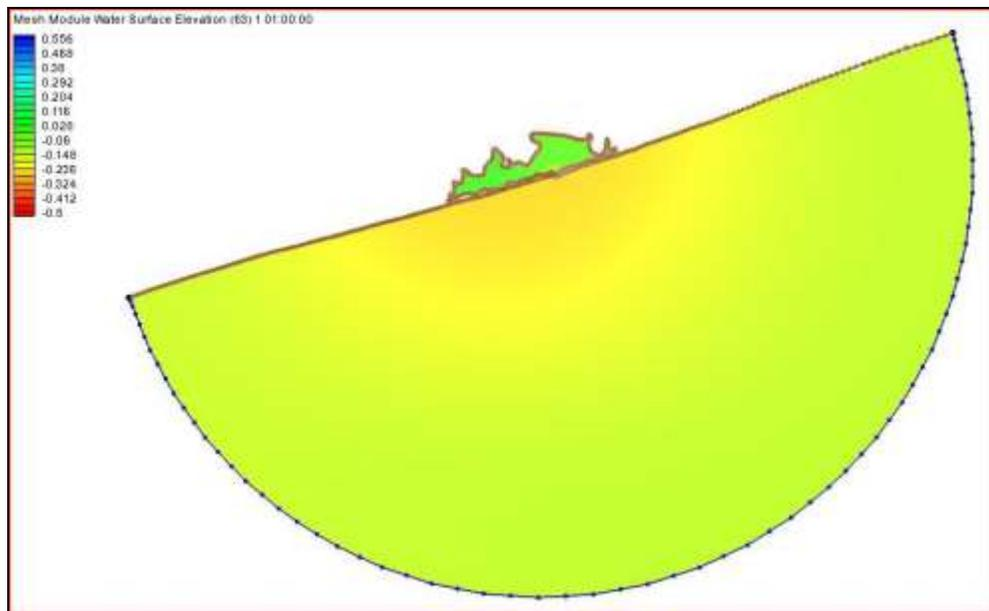

Figure 6 ADCIRC output from the “fort.63” file
6. Click **OK** to exit the dialog box, and SMS will redraw the screen similar to Figure 6 (it will look about the same for the Time step 1 01:00:00).